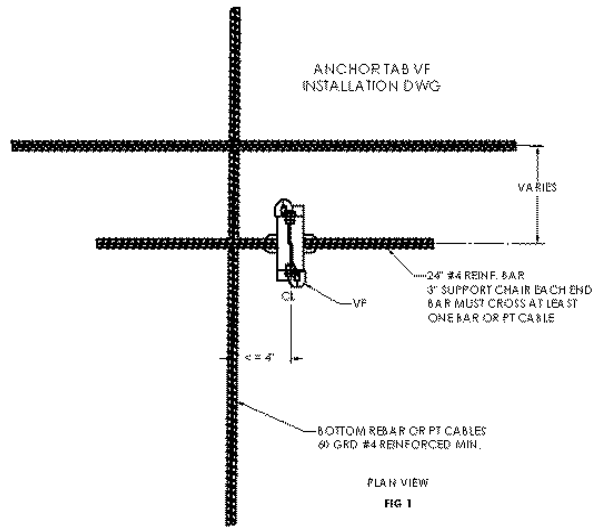
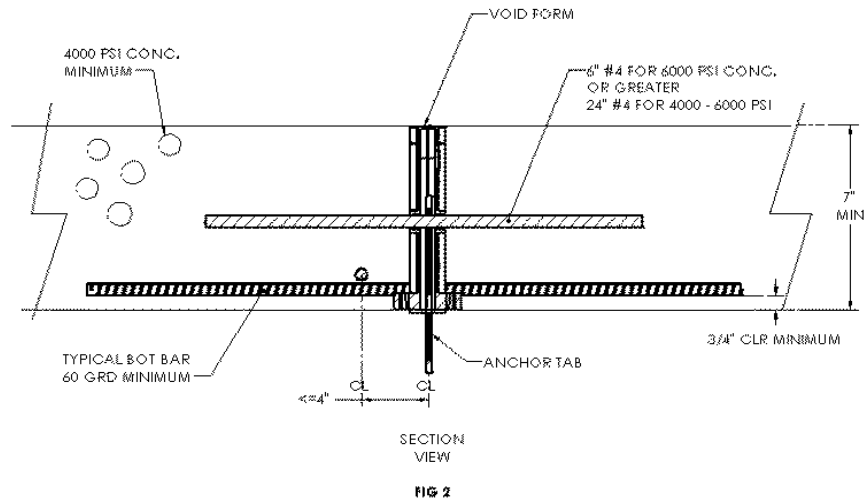

FIGURE 1
FIGURE 2
3. Slide a 24" 60 Grade #4 bar through the elongated hole and center it on the box. SEE – FIG. 1 and FIG. 2